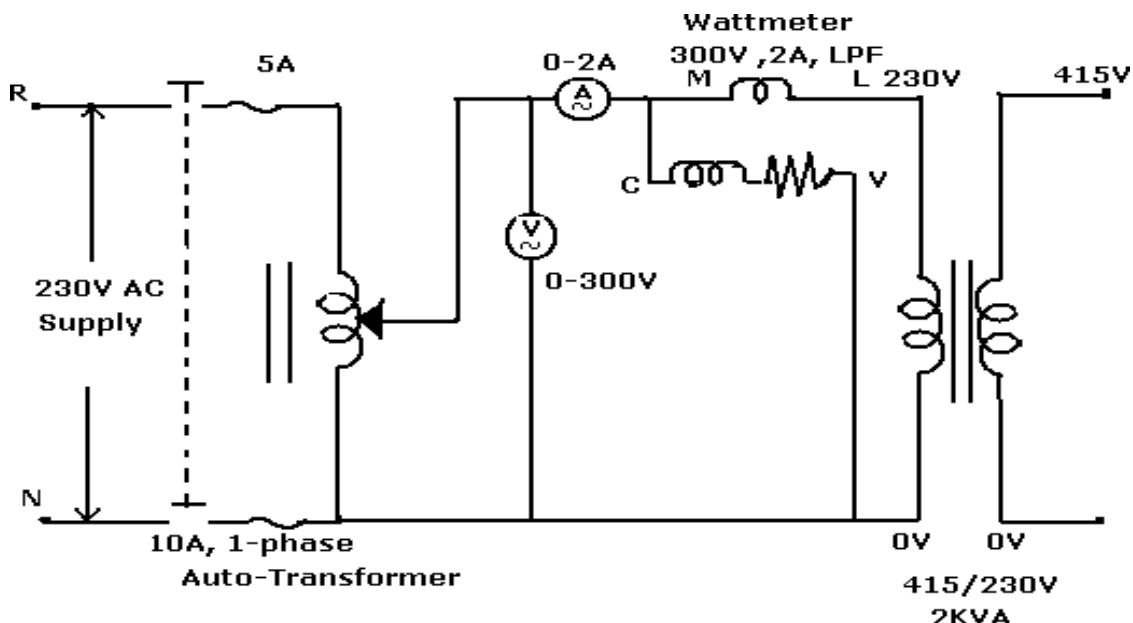

Fig.1.1: Open Circuit Test
In open circuit test, usually HV side is kept open and meters are connected on LV side as shown in the fig.1.1. When rated voltage is applied to the LV side, the ammeter reads the no-load current I_0 and watt meter reads the power input. The no load current I_{NL} is 2 to 5% of full load current. Hence, the copper
- * Connect the circuit diagram as shown in the figure 1.1